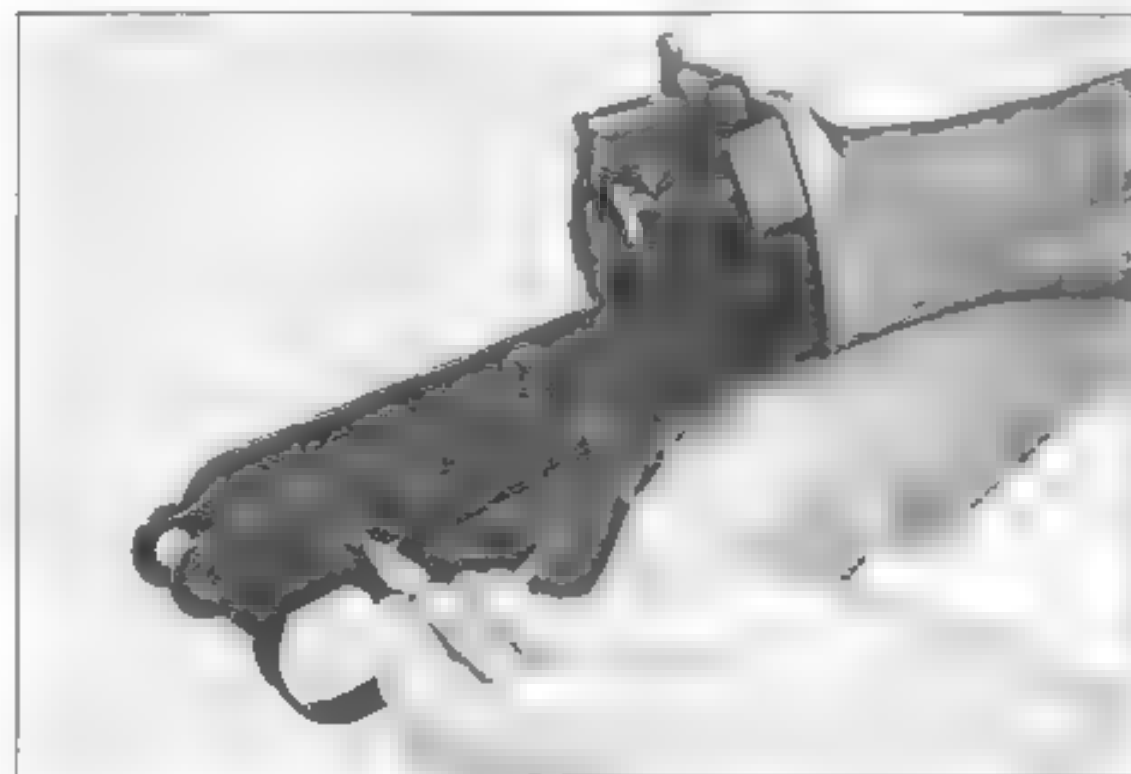

Fig. 98
c) Sear. — Use the nose of a cartridge to push the sear axis pin out of its housing (fig. 98)